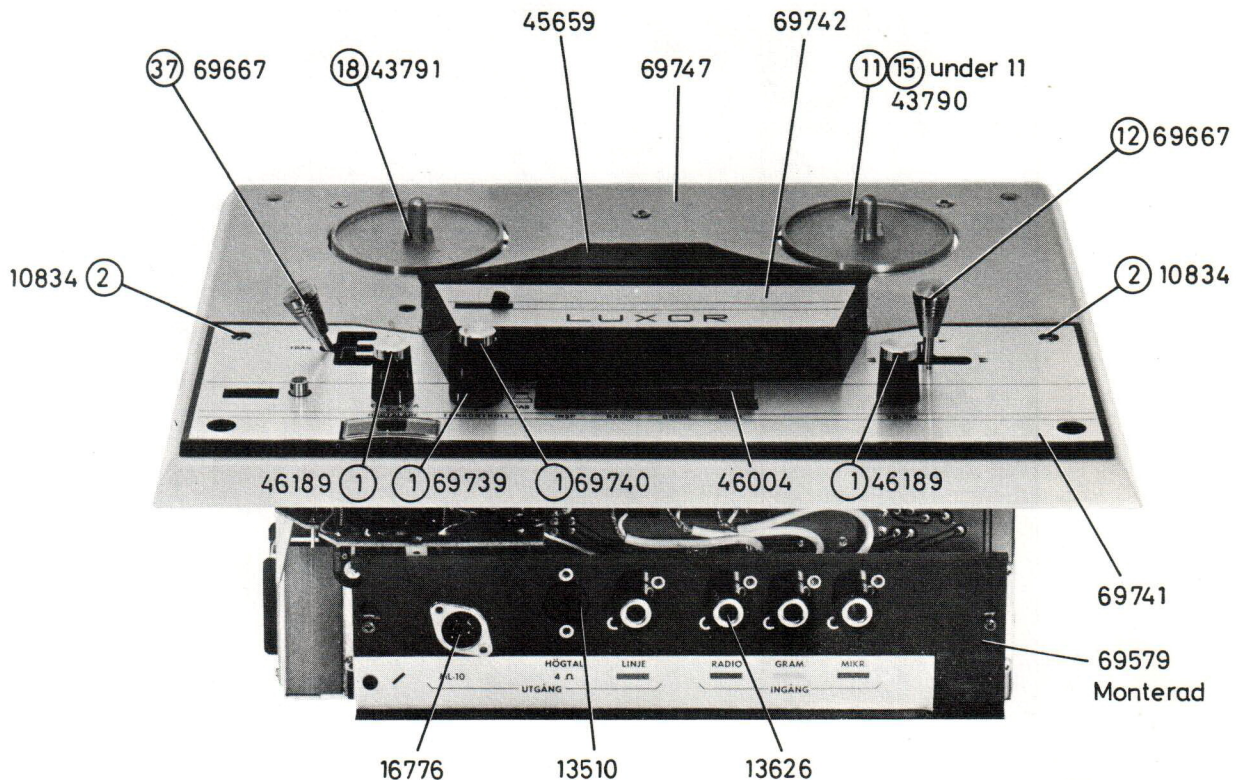
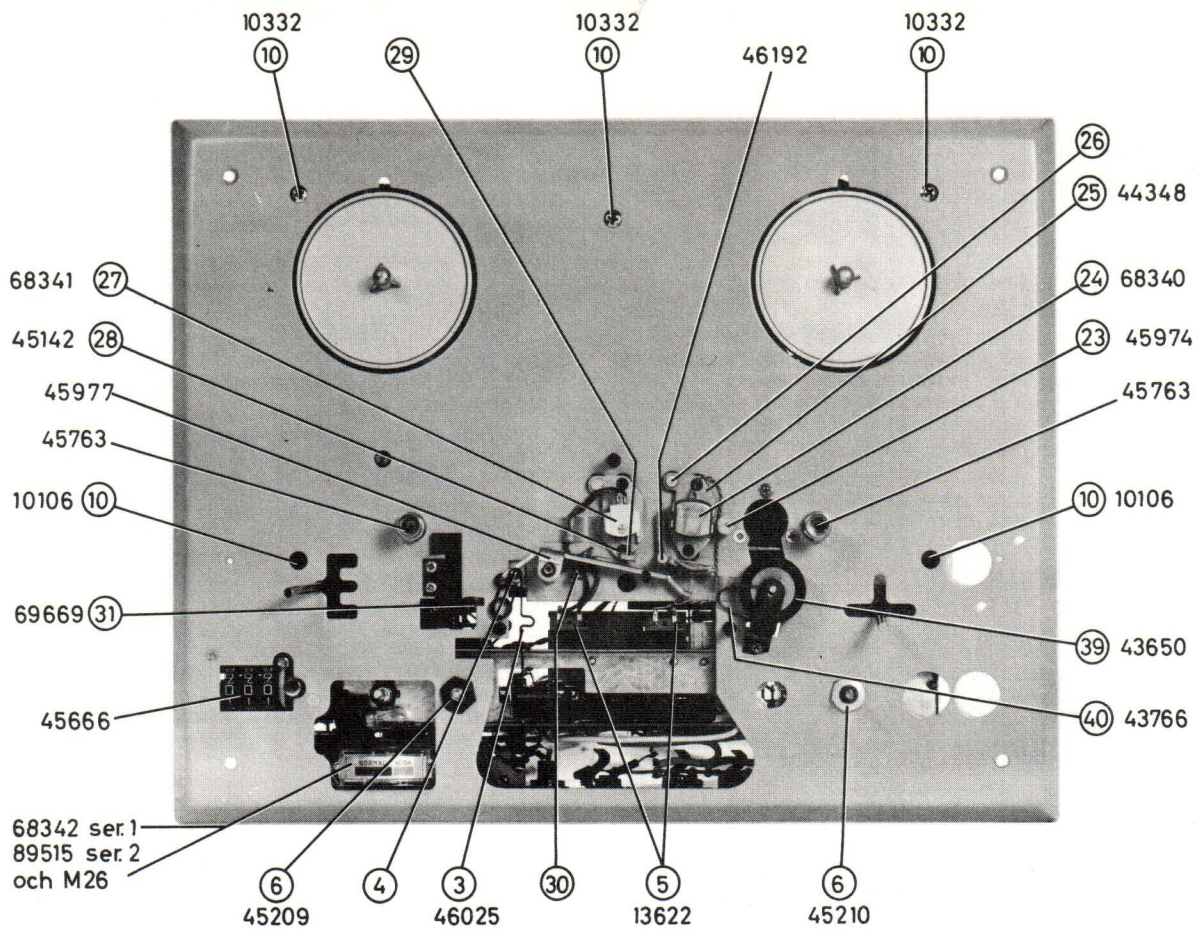
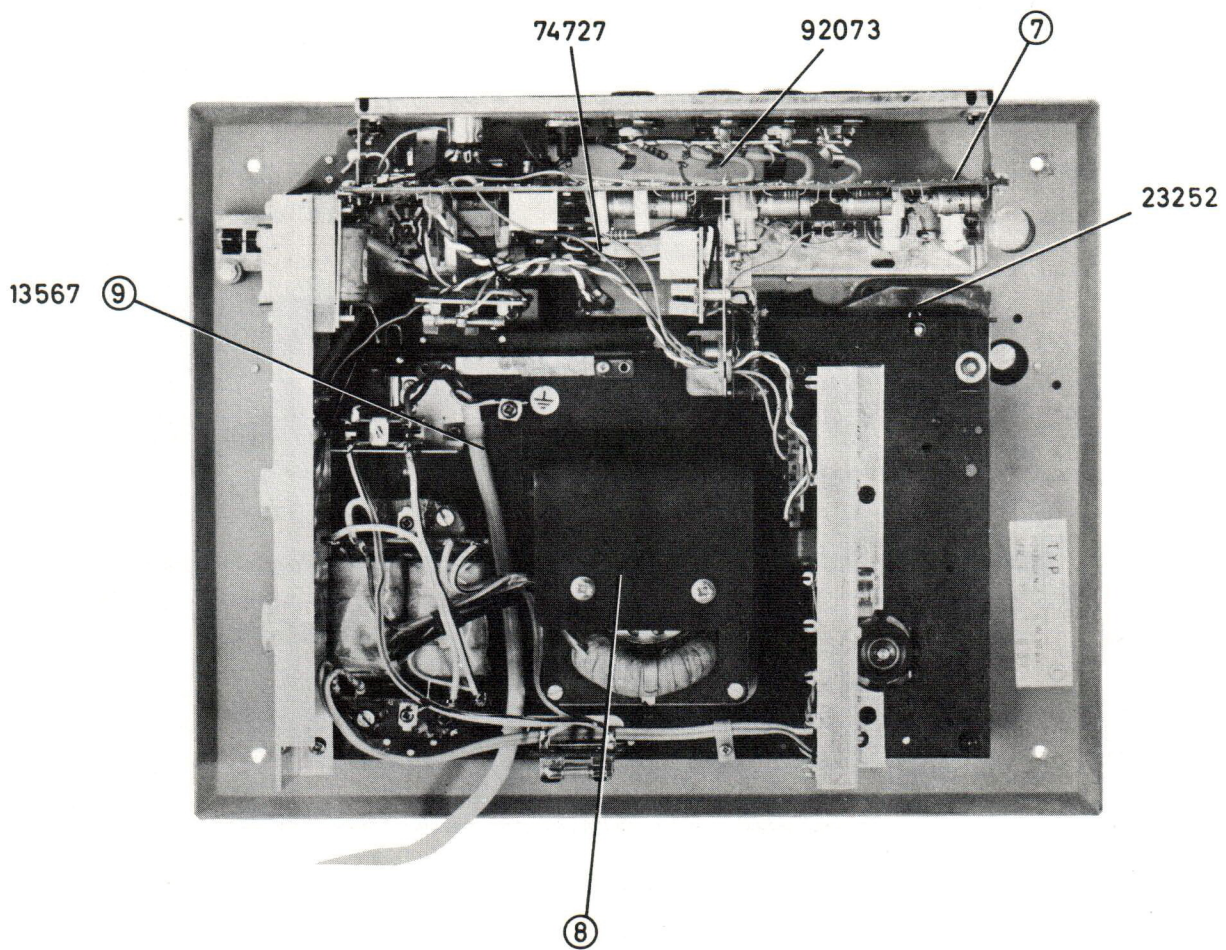
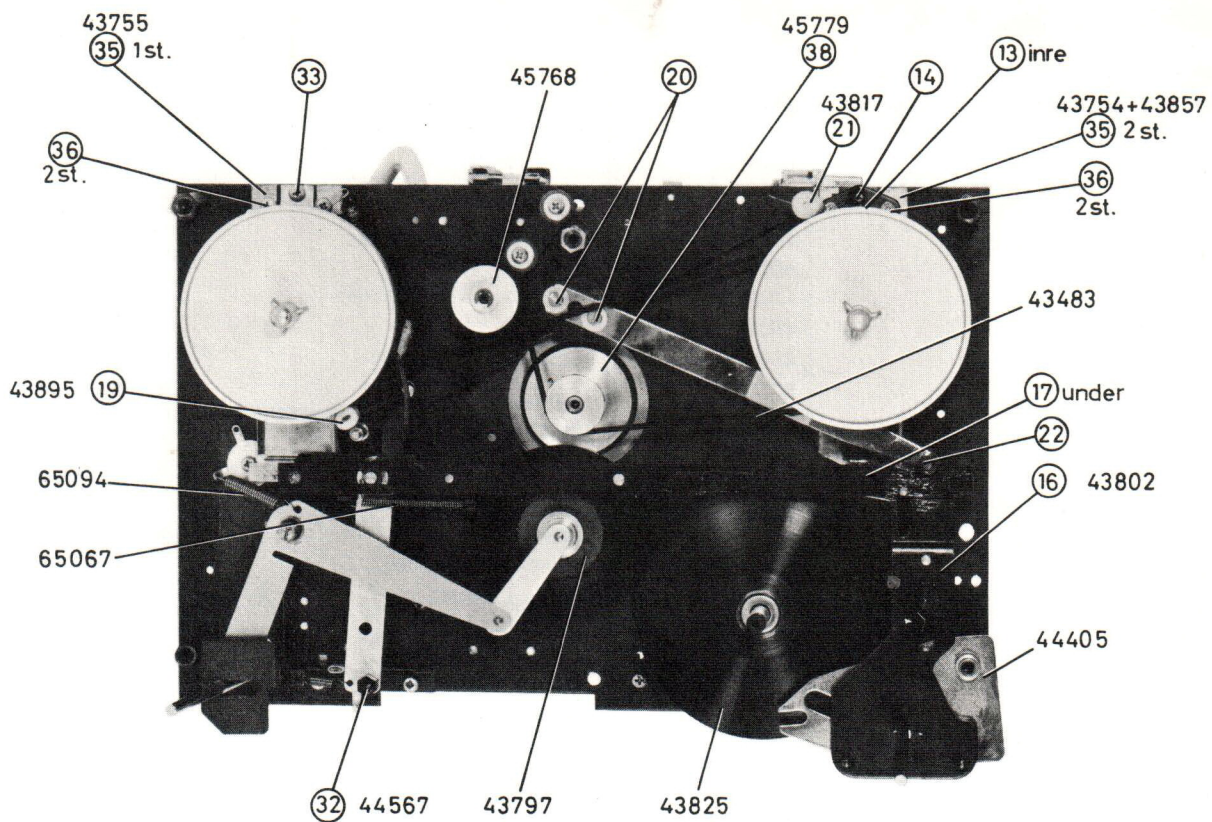

FIG. 1
FIG. 2
FIG. 3
FIG. 4
1. BORTTAG DE FYRA RATTARNA (1) FIG 1.
2. BORTTAG DE TVÅ MANÖVERHANDTAGEN (12) OCH (37).
4. BORTTAG DEN TUNNA STORA MASKEN GENOM ATT LOSSA TVÅ SKRUVAR (2).
5. BORTTAG MUTTERN (34) PÅ STRÖMBRYTAREN.
6. BORTTAG MANÖVERTRÅDEN (3) VID TOPPEN (4) FIG 2.
7. BORTTAG ANSLUTNINGSKONTAKTERNA (5) FRÅN HUVUDET.
8. BORTTAG DE TVÅ MUTTRARNA (6), SOM FASTHÅLLER FÖRSTÄRKAREN I BASPLATTAN.
9. BORTTAG SKRUVEN (7), SOM HÅLLER FÖRSTÄRKAREN BAKTILL FIG 3.
10. BORTTAG MUTTERN (8) FÖR TRYCKRULLEARMEN.
11. BORTTAG ANSLUTNINGSKONTAKTEN (9) TILL FÖRSTÄRKAREN.
13. BORTTAG DE FEM SKRUVARNA (10) PÅ BASPLATTAN FIG 2.
EN TOMSPOLE MED EN INNERDIAMETER AV 57 MM, PÅ VILKEN ÄR UPPLINDAD EN BIT SKALLINA, ANVÄNDES. DENNA SPOLE PLACERAS PÅ BANDSPELARENS HÖGRA SPOLHJUL (11) FIG 2, VAREFTER SKALLINANS FRIA ÄNDE FÄSTES I EN FJÄDERVÅG. FÖR STARTSPAKEN (12) FIG 1 TILL LÄGET MÄRKT MED EN PIL. JUSTERA MED JUSTERSKRUVEN (13) FIG 4 TILLS VÅGEN VISAR 35 ± 5 GRAM. FÖR SEDAN STARTSPAKEN TILL HÖGER, MÄRKT MED TVÅ PILAR, OCH JUSTERA MED JUSTERSKRUVEN (14) TILLS VÅGEN VISAR 110 ± 10 GRAM.
KONTROLLERA ATT ETT AVSTÅND AV 0,5 - 0,7 MM FINNS MELLAN SPOLHJULETS (11) FIG. 1 FRIKTIONS-FILT OCH REMSKIVANS (15) ÖVRE FRIKTIONSÅTA. FÖLJANDE JUSTERING GÖRES: PÅ MANÖVERARMEN (16) FIG. 4 FINNS EN JUSTERMUTTER (17). AVSTÅNDET ÖKAS GENOM ATT SKRUVA NED JUSTERMUTTERN. STARTSPAKEN (12) FIG. 1 SKALL STÅ I 0-LÄGE DÅ DENNA JUSTERING GÖRES.
SAMMA SPOLE, SOM VID JUSTERING AV FRAMSPOLNINGEN, PLACERAS PÅ BANDSPELARENS VÄNSTRA SPOLHJUL (18) FIG. 1, VAREFTER SKALLINANS FRIA ÄNDE FÄSTES I EN FJÄDERVÅG. FÖR STARTSPAKEN (12) TILL LÄGET MED TVÅ PILAR TILL VÄNSTER. JUSTERA MED JUSTERSKRUVEN (33) FIG. 4 TILLS FJÄDERVÅGEN VISAR 110 ± 10 GRAM.
STOPPBROMSARNA JUSTERAS SÅ ATT DÅ STARTSPAKEN (12) FIG. 1 STÄLLES I LÄGE SNABBT FRAM ELLER BACK SKALL DEN VÄNSTRA BROMSFILTEN (19) FIG. 4 LIGGA 0,1 - 0,3 MM FRÅN YTTERKANTEN PÅ VÄNSTRA SPOLHJULET.
DETTA AVSTÅND JUSTERAS GENOM ATT LOSSA DE BÅDA JUSTERSKRUVARNA (20) FIG. 4.
FÖR SEDAN STARTSPAKEN TILL STOPPLÄGE, VRID VÄNSTRA SPOLHJULET (18) FIG. 1 EN ANING MOTURS, VAREFTER DEN HÖGRA BROMSFILTEN (21) FIG. 4 JUSTERAS (GENOM BOCKNING), SÅ ATT BROMSKRAFTEN PÅ HÖGRA SPOLHJULET BLIR NÅGOT LÄGRE ÄN PÅ DET VÄNSTRA.
BANDSTYRNINGEN (23) FIG. 2 INSTÄLLES I HÖJLED, SÅ ATT TONBANDET PASSERAR RAKT GENOM SAMTLIGA BANDSTYRNINGAR UTAN ATT PÅ NÅGOT STÄLLE TVINGAS VARE SIG NED ELLER UPP. VID JUSTERING TILLSSES ATT RADERHUVUDET (27) FIG. 2 JUSTERAS SÅ ATT BANDET LÖPER LÄTT MELLAN DESS STYRPINNAR. SE ÄVEN UNDER "JUSTERING AV RADERHUVUDET".
TONHUVUDET (24) FIG. 2 JUSTERAS I HÖJLED SÅ ATT DESS ÖVRE KÄRNPLÅT KOMMER ATT LIGGA 0,1 MM UNDER TONBANDETS ÖVRE KANT. DESSUTOM TILLSSES ATT HUVUDETS FÄSTPLÅT (25) KOMMER PARALLELLT MED BASPLATTAN. MAX. AVVIKELSE 0,2 MM.
RADERHUVUDET (27) FIG. 2 JUSTERAS SÅ ATT TONBANDET PASSERAR HUVUDETS STYRNINGAR UTAN ATT VILJA GÅ UPP ELLER NED. SE ÄVEN UNDER "BANDSPOLNINGEN EJ TILLFREDSTÄLLANDE".
TRYCKFILTEN (29) FIG. 2 SKALL HA ETT LÄMPLIGT TRYCK MOT RADERHUVUDET, SÅ ATT RÄTT TRYCK ÄVEN MOT TONHUVUDET ERHÅLLES. JUSTERAS MED SKRUVEN (30). TRYCKET MOT TONHUVUDET MÄTES INDIREKT GENOM ATT EN BIT TONBAND, FASTSATT I EN FJÄDERVÅG, LÄNGSAMT DRAGES MEDELST VÅGEN GENOM BANDSTYRNINGARNA, DÅ HUVUDETS RÖRLIGA SKÄRMPLÅT LIGGER AN MOT HUVUDET. VID RÄTT JUSTERING SKALL VÅGEN VISA EN DRAGKRAFT AV 40 \pm 5 GRAM.
MANÖVERSPAKEN (31) FIG. 2 HAR TVÅ LÄGEN TILL VÄNSTER: LÄGE 1 VARIFRÅN SPAKEN AUTOMATISKT ÅTERGÅR TILL KÖRLÄGE SÅ SNART DEN SLÄPPS OCH LÄGE 2 (LÄNGST TILL VÄNSTER), DÄR SPAKEN KVARSTÅR TILLS DEN MANUELLT ÅTERFÖRS TILL KÖRLÄGE.
JUSTERING: FÖR STARTSPAKEN (12) FIG. 1 TILL LÄGE MÄRKT MED EN PIL SAMT MANÖVERSPAKEN (31) FIG. 2 TILL LÄGE 1. I DETTA LÄGE SKALL ETT AVSTÅND AV 0,2 - 0,5 MM FINNAS MELLAN TRYCKRULLEN OCH KAPSTANAXELN. AVSTÅNDET KAN ÖKAS ELLER MINSKAS GENOM VRIDNING AV DEN NEDRE 6-KANTIGA DELEN AV DEN EXCENTRISKA LAGER-TAPPEN (32) FIG. 4.
MANÖVERFJÄDRARNA (35) FIG. 4. TRE STYCKEN JUSTERAS SÅ ATT FJÄDRARNA EJ NÖTER MOT SPOLHJULNAVENS LAGERBUSSNINGAR. FJÄDRARNA SKALL ALLTSÅ HÅLLAS I NEUTRALLÄGE, DÅ FÄSTSKRUVARNA (36) ÅTDRAGES.
MED SPAKEN FÖR HASTIGHETSOMSTÄLLNING (17) FIG. 1 I LÄGE 17 1/2" KONTROLLERAS, ATT MELLANHJULET LIGGER PARALLELLT MED MONTERINGSPLÅTEN OCH ATT MELLANHJULETS LAGERTAPP LIGGER PÅ ETT AVSTÅND AV 0,3 - 0,7 MM FRÅN MONTERINGSPLÅTEN. VID BEHOV BOCKAS DEN LÅNGA MANÖVERARMEN UPP ELLER NED.
MOTORN DRIVRULLE (38) FIG. 4 JUSTERAS I HÖJDLED SÅ, ATT DÅ MANÖVERSPAKEN (37) FIG. 1 STÅR I LÄGE 1 7/8" SKALL 1,5 MM:S AVSTÅND FINNAS MELLAN UNDER KANTEN AV MELLANHJULETS GUMMIBANA OCH ÖVRE KANTEN AV DRIVRULLENS 3 3/4":S DRIVBANA. JUSTERING AV DRIVRULLENS HÖJDLÄGE GÖRES GENOM ATT ROTORN HÅLLES STILLA UNDER DET ATT DRIVRULLEN VRIDES MOTURS, SAMTIDIGT SOM DEN HÖJES ELLER SÄNKES EFTER BEHOV.
VID JUSTERING AV TRYCKRULLEN (39) FIG. 2 IAKTTAGES STOR FÖRSIKTIGHET, SÅ ATT INTE NÅGON AV DESS TVÅ FJÄDRAR (40) DEFORMERAS, VILKET MEDFÖR, ATT TRYCKRULLEN KAN FÅ OLIKA ANLIGGNINGSTRYCK I ÖVRE OCH NEDRE KANTEN, VARVID BANDFÖRINGEN FÖRSÄMRRAS MED HÖGRE SVAJNINGSVÄRDEN SOM FÖLJD.
LÄNGDEN AV MANÖVERTRÅDEN (3) FIG. 2 JUSTERAS SÅ ATT SÄKER UTLÖSNING AV INSPELNINGSKNAPPEN ERHÅLLES ÄVEN DÅ MANÖVERSPAKEN LÅNGSAMT FÖRES FRÅN KÖRLÄGE TILL STOPPLÄGE.